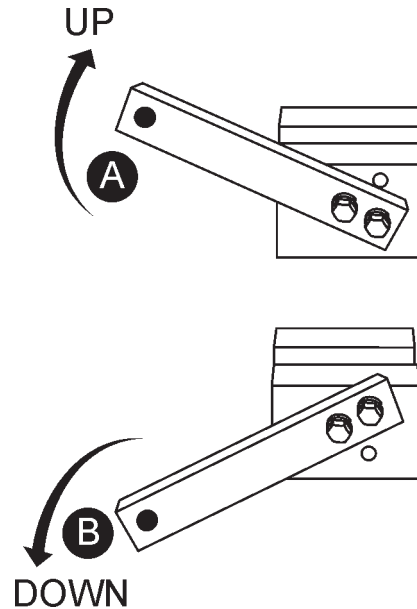

Figure 29. Trowel Arm Adjustment Setup
2. Ensure the fixture arm is in the proper position (up or down) for your trowel arm rotation as shown in Figure 29.
Arms with CLOCK-WISE blade rotation use the fixture arm in the UP position (A in Figure 39). Arms with COUNTER CLOCK-WISE blade rotation use the fixture with the fixture arm in the DOWN position. (B in Figure 29)